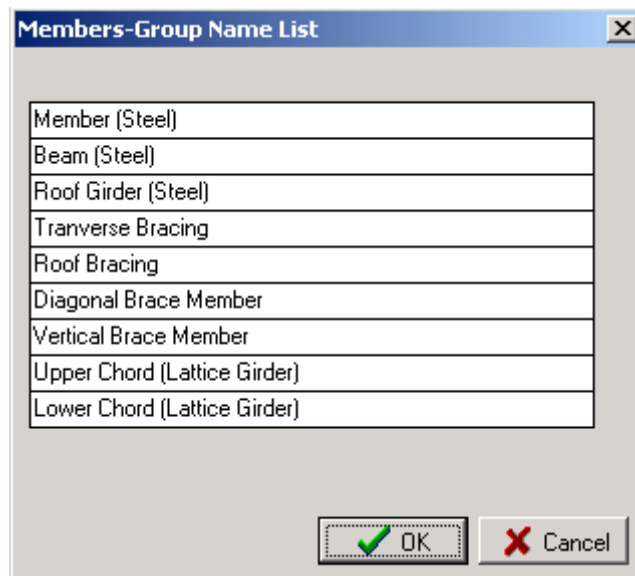

Figure 48 “Member Groups” dialogue box
1. Choose Parameters > Options > Member Groups names command. The dialogue box shown on figure 48 will appear.